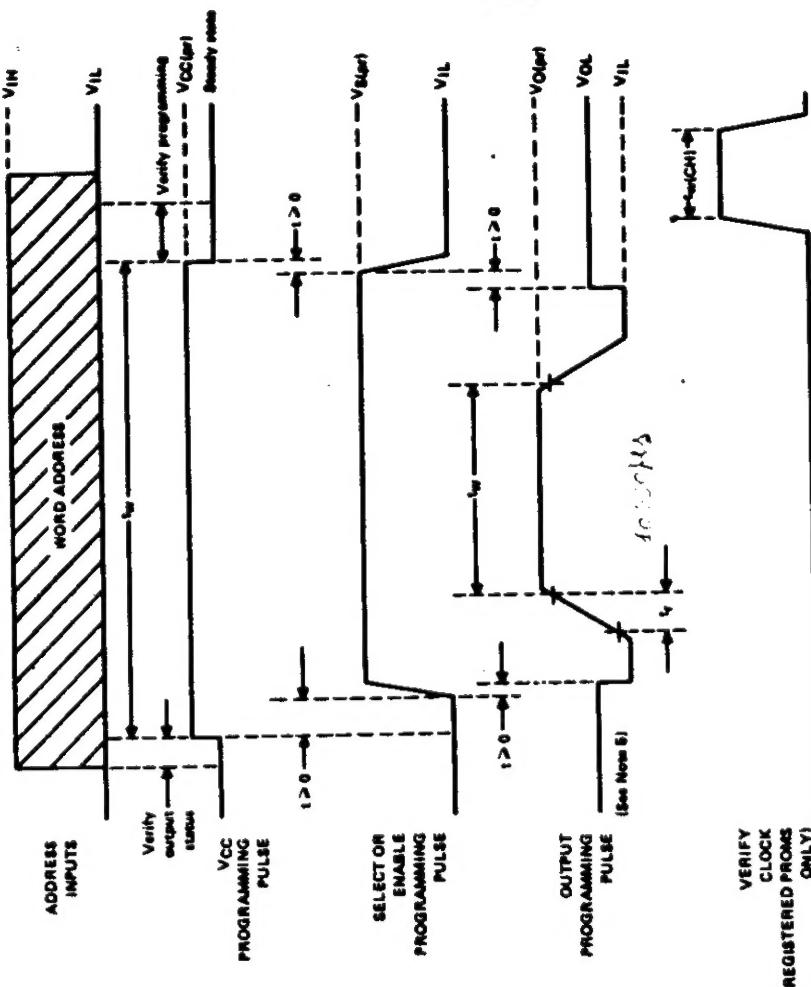

FIGURE 2 - TIMING DIAGRAM AND VOLTAGE WAVEFORMS FOR PROGRAMMING SEQUENCE
| Supply voltage programming pulse (see Figure 2) | 0 | 0.5 | 6 | V |
| Supply voltage verify pulse (see Figure 2) | 0.75 | (6) | 6.25 | V |
| Supply or enable programming pulse (see Figure 2) | 0.75 | (9) | 11 | V |
Step-by-step programming instructions (see Figure 2)